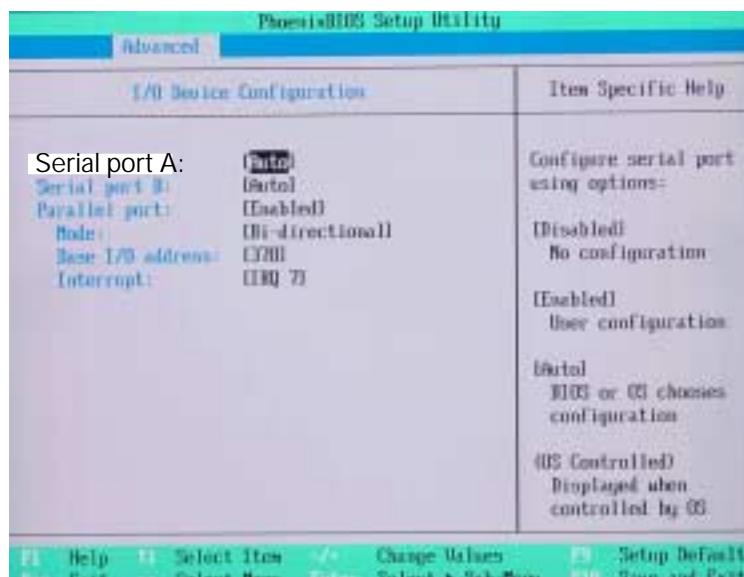

Figure 19-5 I/O Device configuration
15. Verify correct “I/O Device Configuration” settings (see Figure 19-5).